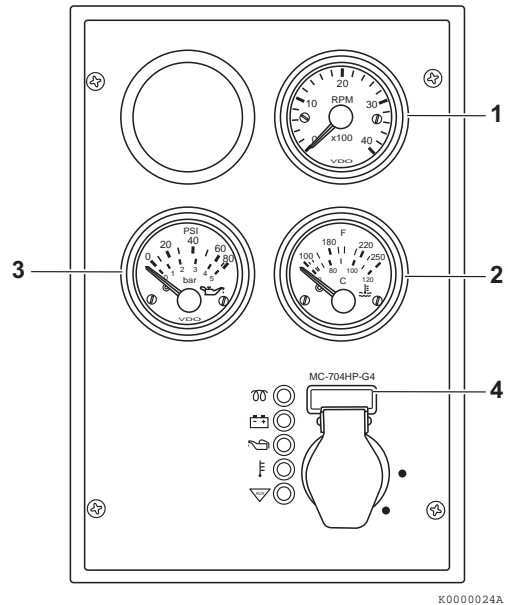
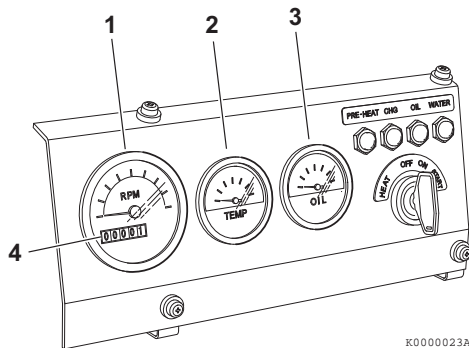

Figure 8
Figure 7
Tachometer - The tachometer display (**Figure 7, (1)**) or (**Figure 8, (1)**) shows the engine speed in revolutions per minute (RPM).
Engine coolant temperature - The engine coolant temperature display (**Figure 7, (2)**) or (**Figure 8, (2)**) shows the temperature of the engine coolant.
Engine oil pressure - The engine oil pressure display (**Figure 7, (3)**) or (**Figure 8, (3)**) shows the pressure of the engine oil.
Hour meter - The hour meter display (**Figure 7, (4)**) or (**Figure 8, (4)**) shows the total number of hours the engine has run. This is useful for planning the *Periodic Maintenance Procedures* on page 66.